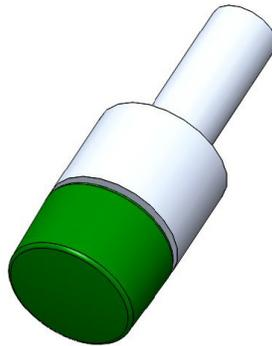

FIGURE 27. Z-PUSH TOOL
- a. If it is not possible to effectively seat or settle the part with the robot part pick, robot settle or vise settle in the MultiGrip™ Jaws, an option is to use a Z-Push tool shown in Figure 27, or a custom tool to push the part.